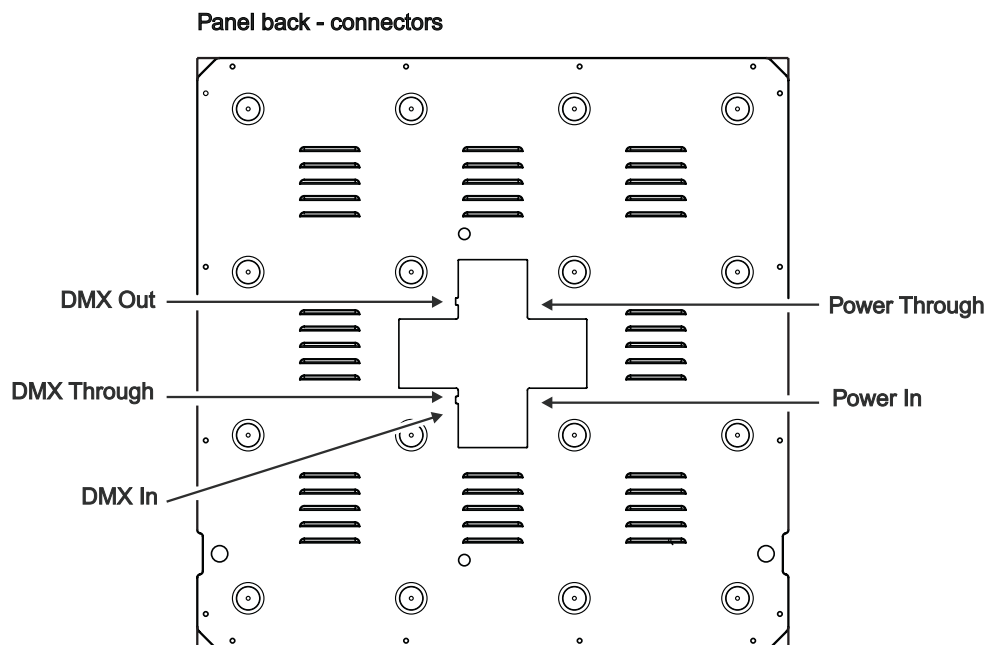

Figure 9: Connections
See Figure 9. The EvenLED panel must be connected to power and to a DMX control data link using the following connectors:
4. When you reach the maximum permitted number of interconnected panels (see Figure 9 on page 12), stop. Do not connect any more panels to this chain. If you need to connect more panels to power, start a new chain connected to a separate power outlet.